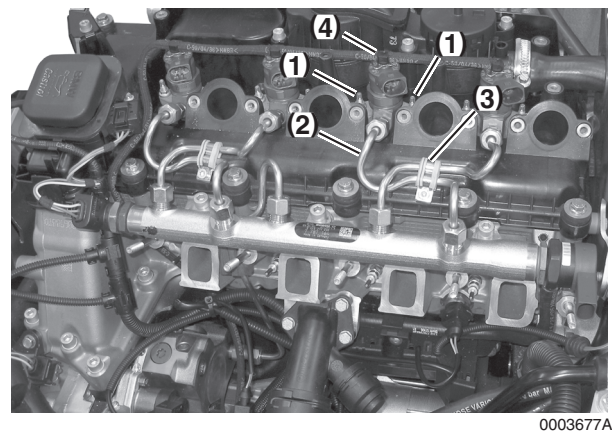

Figure 6-16
6. Install two nuts (Figure 6-16, (1)) and tighten to 8 N·m (71 in.-lb).
7. Install the high-pressure fuel line (**Figure 6-16, (2)**). See *Remove and Install High-Pressure Fuel Lines* on page 6-13.
8. If removed, install clamp (**Figure 6-16, (3)**).
9. Install injector return fuel lines (**Figure 6-16, (4)**). See *Replace Injector Return Fuel Line* on page 6-20.